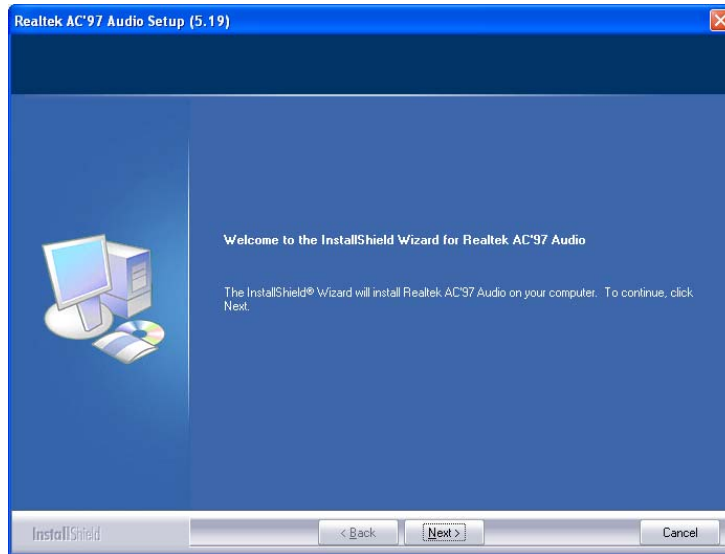

Figure 6-15: AC'97 Driver Installation Welcome Screen
Step 5: The AC'97 Driver Installation screen in **Figure 6-15** appears.